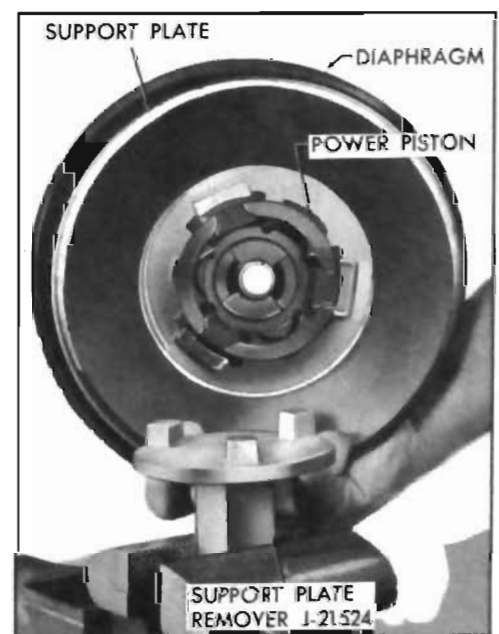

Figure 9-28—Positioning Power Piston in Wrench
3. Place the Power Piston Wrench, J-21542 in a vise. Position the power piston on the wrench with the three lugs fitting into the notches in the power piston. See Figure 9-28.